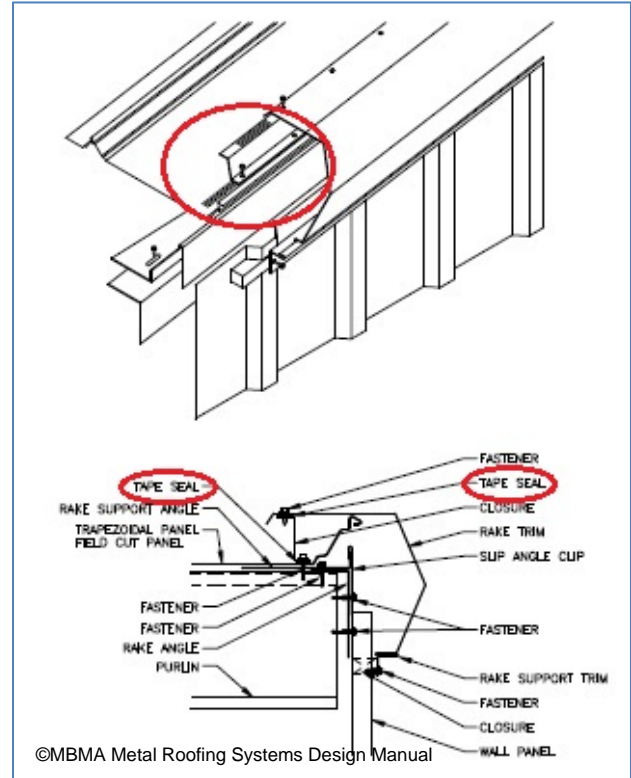

Figure 13-15
- Panel to flashing at rakes or gables (Figure 13-15)